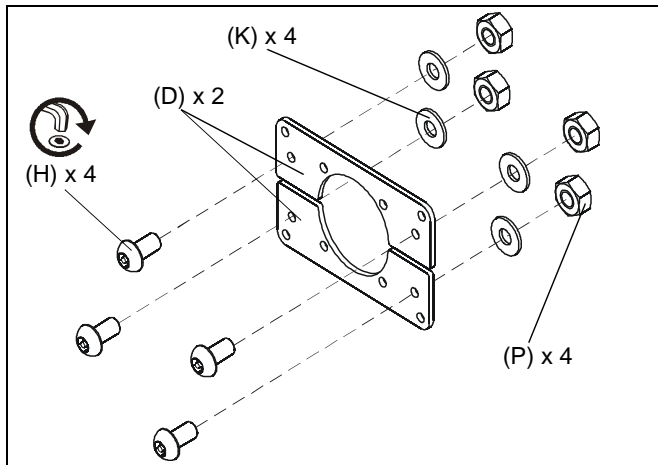

Figure 2
1. **For the RPM only**, prepare two interface brackets (D) using four 1/4-20X3/4" buttonhead screws (H), four 1/4" flat washers (K) and four 1/4" hex nuts (P). (See Figure 2)